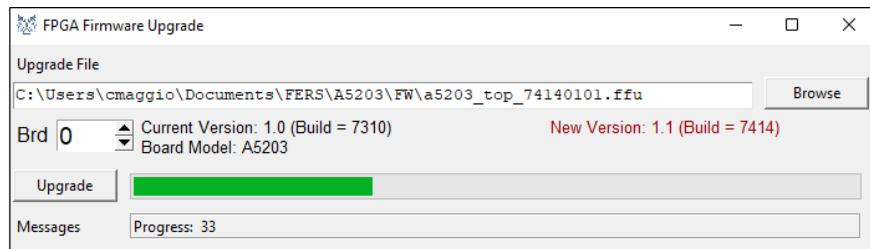

Fig. 12.4: FPGA Firmware Upgrade window while the firmware upgrade is in progress.
- Press the "Upgrade" button. First, the FPGA firmware file in the A5203(B)/DT5203 board is erased, then the new FPGA firmware selected by the user is written onto the on-board FLASH memory. The user can check the progress of this operation by looking at the green bar and at the "Messages" field in the FPGA Firmware Upgrade window (see **Fig. 12.4**).